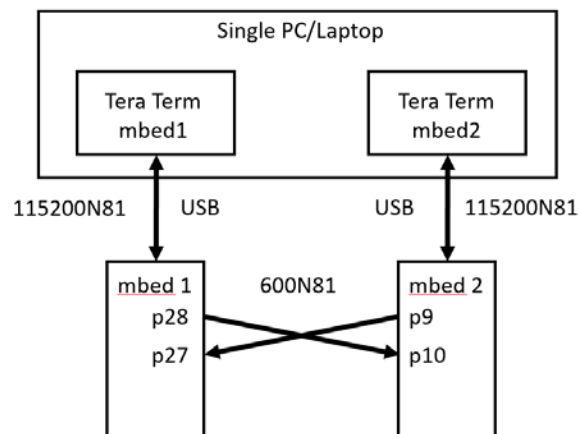

Figure 3 Schematic layout of Part B.
Part B: Develop and test mbed code to pass serial data to a PC. Note that two mbed microcontrollers connected as shown in Figure 3 are required to complete this section. If desired, the two mbed microcontrollers could be connected to different PCs. If this option is selected, be sure to connect the mbed ground pins together to avoid spurious signals. See your instructor for assistance. Otherwise, it is recommended to stick to a single computer.
- 9) Connect the second mbed (mbed2) to Tera Term using the following serial settings: **115200N81**. Be sure that the terminal uses an LF or AUTO for New-line (TeraTerm->Setup->Terminal->Receive). Your setup should appear similar to Figure 3.
Part C: Analyzing data collected using serial communications. The following instructions detail how to transfer data from the mbed (using the terminal program Tera Term) into MATLAB for analysis. Plot the received data and perform basic mathematical analysis in MATLAB. Note the physical set-up should remain the same as that used in Part B and shown in Figure 3.